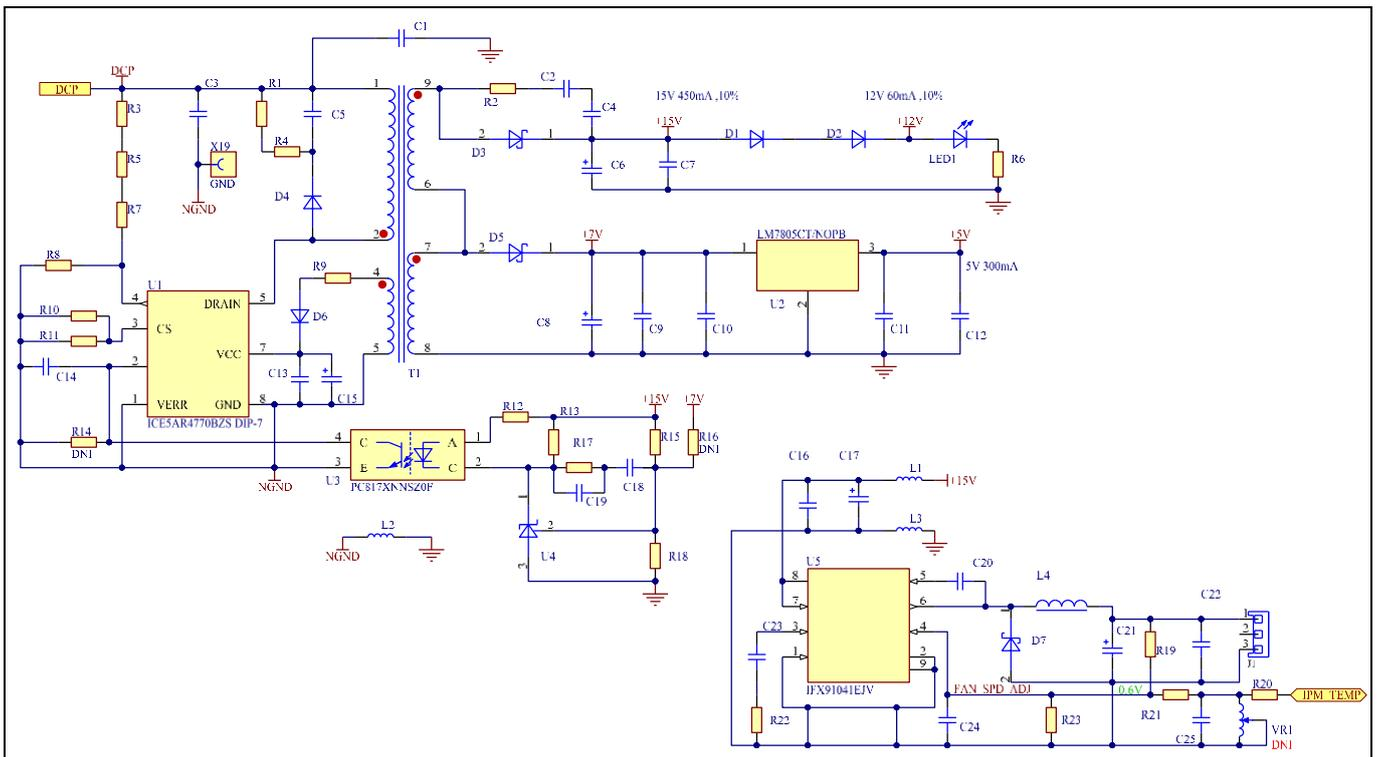
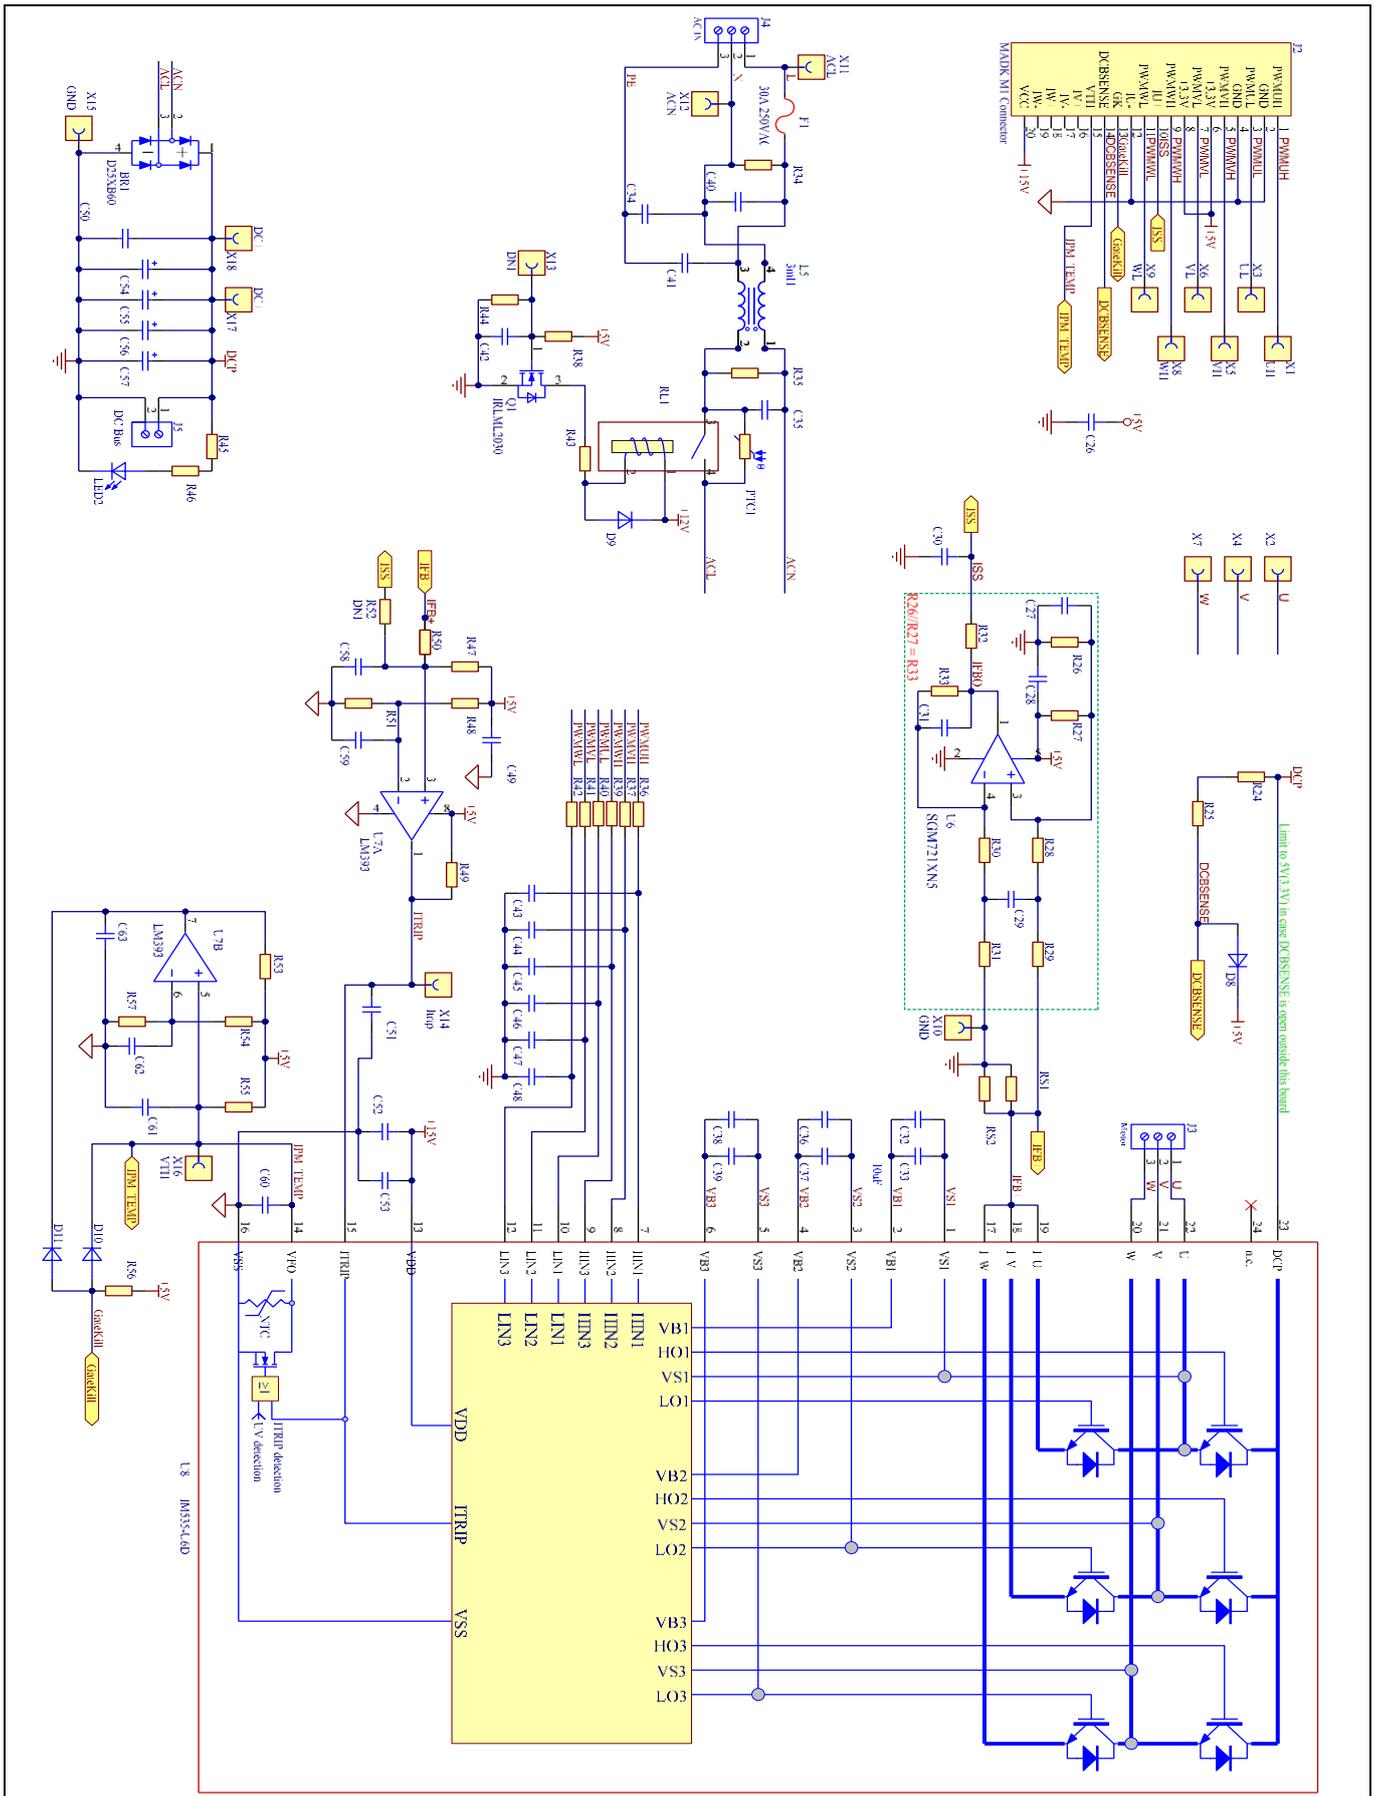

Figure 16 Aux power supply for EVAL-M1-IM535
Figure 17 Schematics for IM535 IPM and peripheral circuit
The overall schematic diagram for EVAL-M1-IM535 are provided in Figure 16 and Figure 17.
Figure 16 shows the 8 W isolated flyback power supply based on ICE5AR4770BZS, +15 V and +5 V output for IPM and controller, the major function information are listed as below:
Figure 17 shows the inverter section of EVAL-M1-IM535, which contains IM535-U6D and its peripheral circuits, the major function information is listed below:
- U7B (LM393) for over-temperature protection; the pull-up resistor for IPM internal NTC is not a unique device, which is a combination of R55, R56, D10 and circuit in “Gatekill” and “IPM_TEMP” networks on control board, it is not recommended to change the hardware setup of U7B. Please adjust MCEWizard setup for over-temperature protection as shown in Figure 17, which is easier and safer.